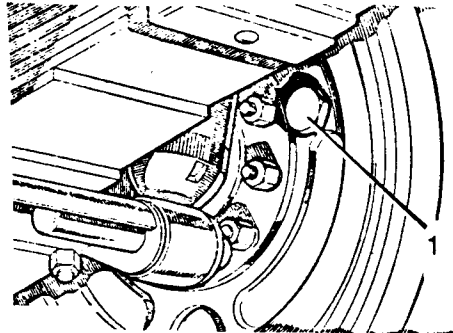

Fig K1.37
- (1) Refer to Fig K1.37. Slacken off the brake shoe adjusters (1) on each wheel to minimise wheel cylinder volume.